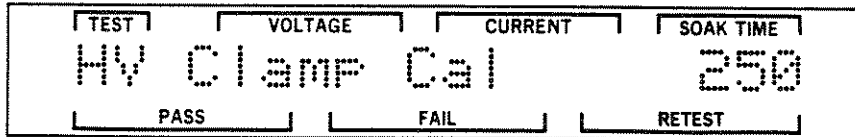

Figure 5-6. HV Clamp Calibration Screen
STEP 6. Display the HV Clamp Calibration screen by entering the Configure mode and pressing the UP or DOWN pushbutton as many times as is necessary. For information on entering the Configure mode, refer to Entering the Configure Mode, Section 3.4.5.1. Figure 5-6 is an example of the HV Clamp Calibration screen.